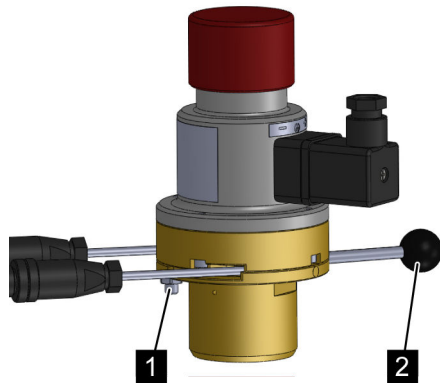

Fig. 18: Isolating the release device
2. ➤ Undo the hexagon nut (Fig. 18/1) on the electric release device using a wrench.
3. ➤ Turn the manual lever (Fig. 18/2) on the electric release device to the "blocked" position.